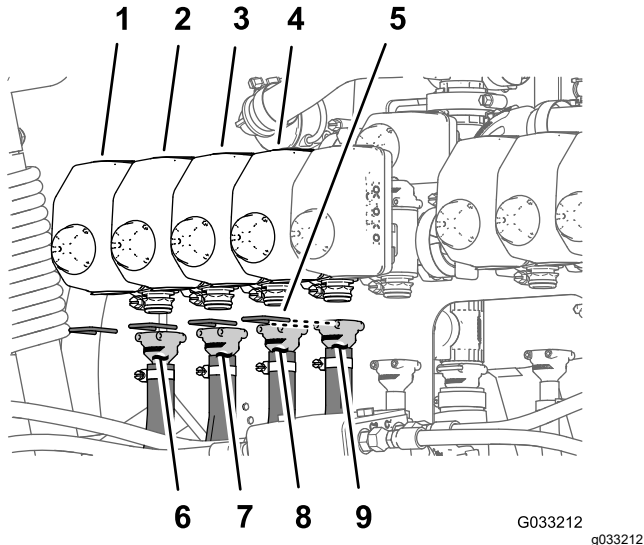
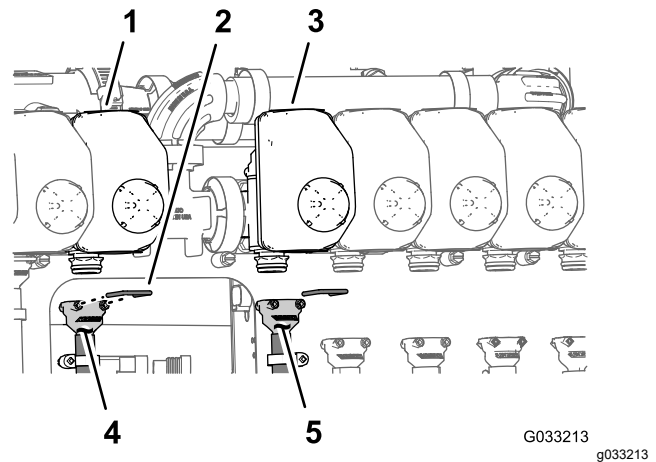

Figure 72
Figure 73
**Note:** Refer to Figure 72 in *Assembling the Hoses to Nozzle Valves 1 through 4* (page 36), Figure 73 in *Assembling the Hoses to Nozzle Valves 5 and 6* (page 36), and Figure 74 in *Assembling the Hoses to Nozzle Valves 7 through 10* (page 37) for the nozzle-valve positions.
1. Assemble the straight barbed fitting of a supply hose 279 cm (110 inches) onto the coupler of nozzle valve 1 (Figure 72).
2. Secure the barbed fitting to the coupler with a retainer (Figure 72).
3. Assemble the straight barbed fitting of a supply hose 234 cm (92 inches) onto the coupler of nozzle valve 2 (Figure 72).
4. Secure the barbed fitting to the coupler with a retainer (Figure 72).
5. Assemble the straight barbed fitting of a supply hose 188 cm (74 inches) onto the coupler of nozzle valve 3 (Figure 72).
6. Secure the barbed fitting to the coupler with a retainer (Figure 72).
7. Assemble the straight barbed fitting of a supply hose 188 cm (74 inches) onto the coupler of nozzle valve 4 (Figure 72).
8. Secure the barbed fitting to the coupler with a retainer (Figure 72).
1. Assemble the straight barbed fitting of a supply hose 81 cm (32 inches) onto the coupler of nozzle valve 5 (Figure 73).
2. Secure the barbed fitting to the coupler with a retainer (Figure 73).
3. Assemble the straight barbed fitting of a supply hose 81 cm (32 inches) onto the coupler of nozzle valve 6 (Figure 73).
4. Secure the barbed fitting to the coupler with a retainer (Figure 73).